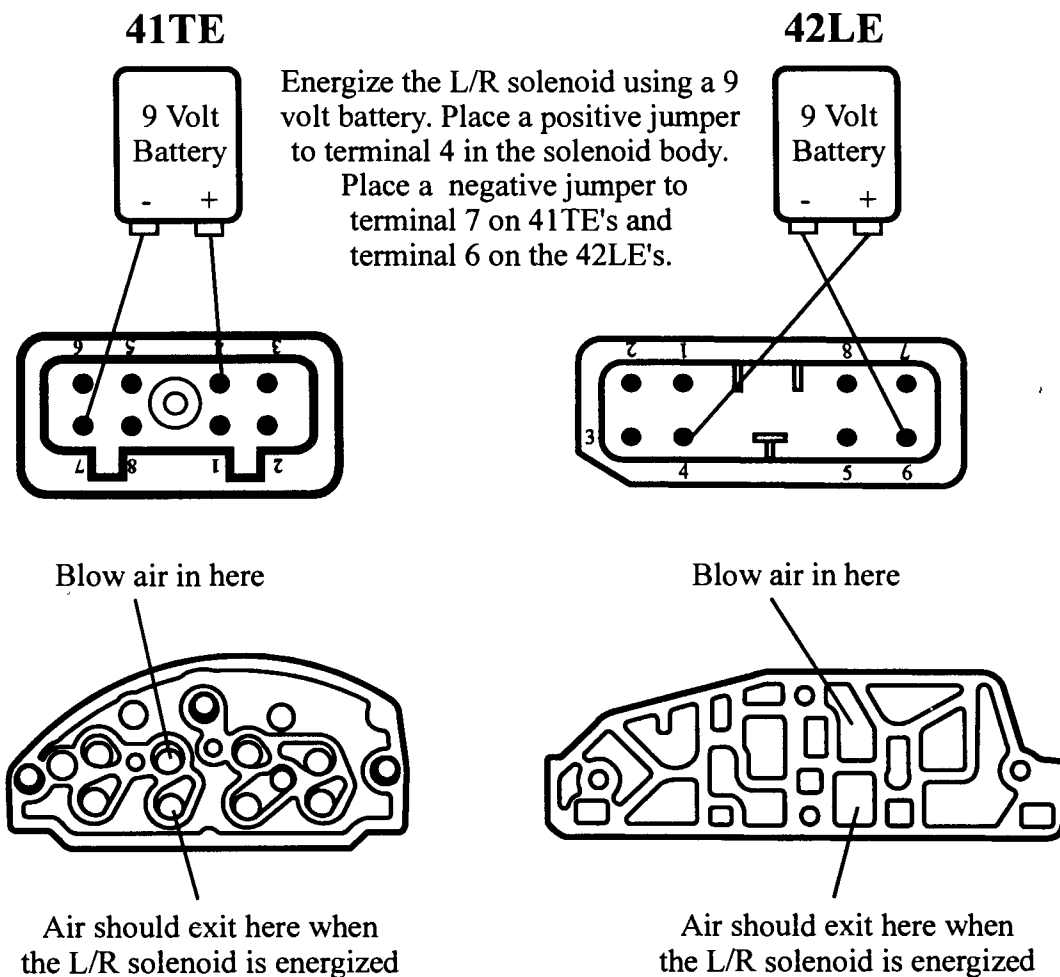

Figure 49
- A malfunctioning L/R solenoid mechanically may prevent the L/R clutch to apply. This mechanical failure of the solenoid may not produce a solenoid code. However, it may produce a L/R pressure switch code. If a L/R pressure switch code is present, refer to pages 38 to 43 for the diagnostic steps. If a L/R pressure switch code is not present, perform a bench check of the L/R solenoid using a 9 volt battery and compressed air as seen in Figure 49. Replace the solenoid body if necessary. If the L/R solenoid is good, go to the next step.